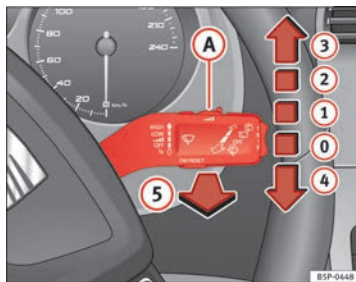

Fig. 86 Windscreen wiper and windscreen wash lever
The windscreen wiper lever ⇒ fig. 86 has the following positions:
- The next speed down will automatically be selected if speed ⇒ fig. 86 ② or ③ is selected when the vehicle stops. The set speed will be resumed when the vehicle starts again